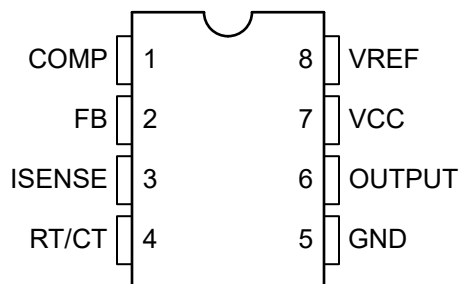

Figure 4-2. Pin Diagram (PDIP (8) Package)
4.2 PDIP (8) Package
Figure 4-2 shows the UCx84xA pin diagram for the PDIP (8) package. For a detailed description of the device pins, see the *Pin Configuration and Functions* section in the UCx84xA data sheet.